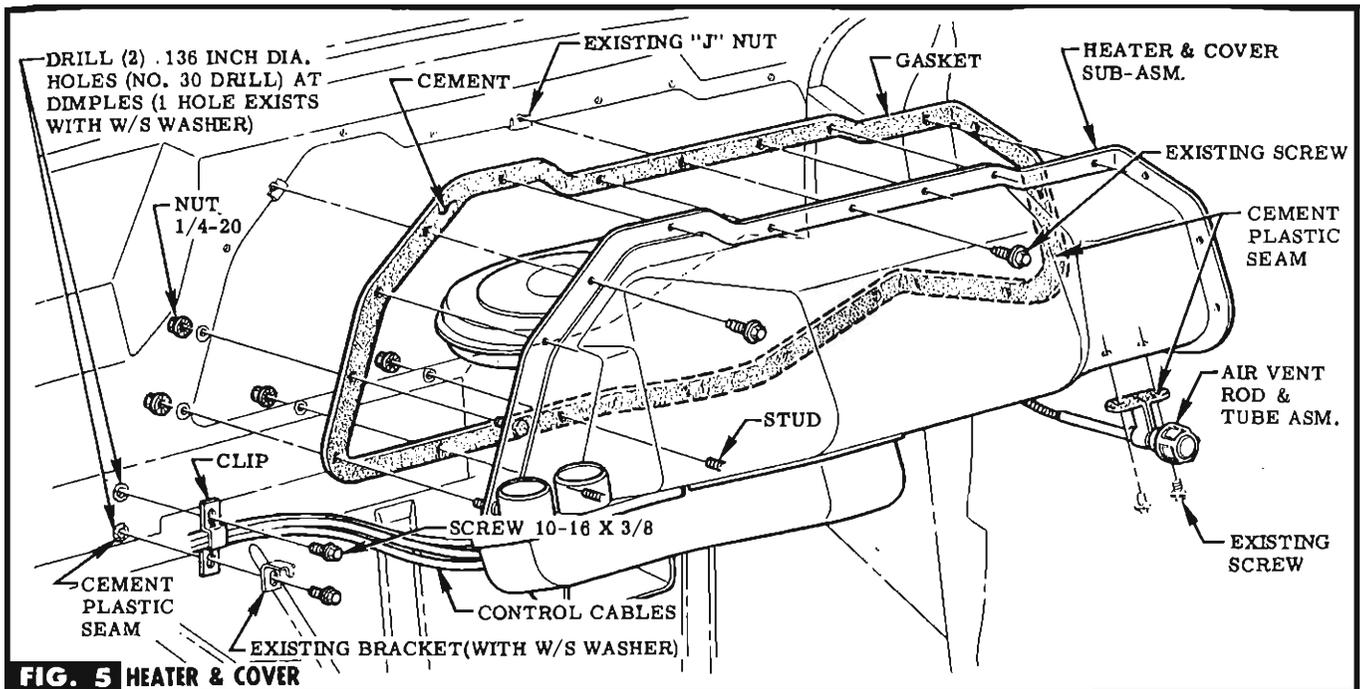

FIG. 5 HEATER & COVER
STEP 29 CEMENT GASKET TO COVER & APPLY PLASTIC SEAM CEMENT TO GASKET AT ATTACHING HOLES & TO DASH AT STUD HOLES. ATTACH COVER TO DASH PANEL WITH EXISTING "J" NUTS, RETAINED SCREWS & PROVIDED NUTS (IN BAG B). SEE FIG. 5.
STEP 30 APPLY PLASTIC SEAM CEMENT BETWEEN AIR VENT ROD & TUBE ASM. & COVER, THEN ATTACH WITH RETAINED SCREWS. SEE FIG. 5.
HOLE. SEE FIG. 5.
STEP 32 IF W/S WASHER DOES NOT EXIST, LOCATE DIMPLES & DRILL HOLES. SEE FIG. 5.
STEP 33 APPLY PLASTIC SEAM CEMENT TO HOLES & ATTACH CONTROL CABLES TO DASH PANEL WITH CLIP & SCREWS PROVIDED (IN BAG A). **NOTE** If W/S washers exist, attach retained bracket to bottom of clip. See Fig. 5.